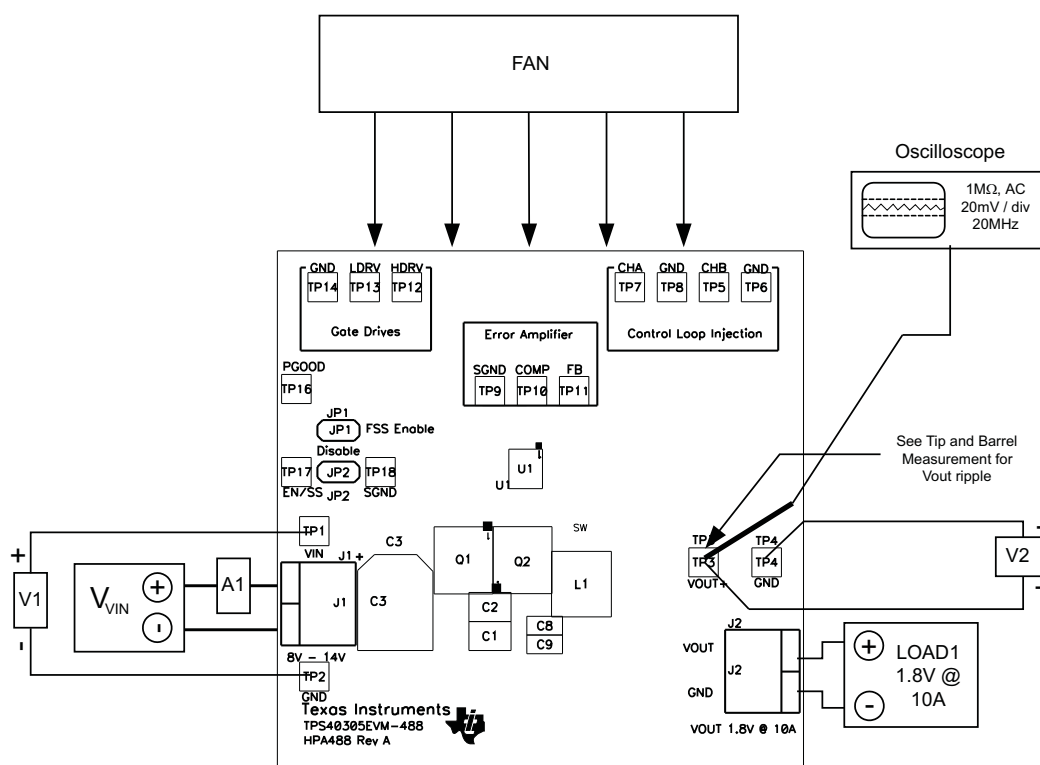

Figure 2. TPS40305EVM-488 Recommended Test Set-Up
Shown in Figure 2 is the basic test set up recommended to evaluate the TPS40305EVM-488. Note that although the return for J1 and JP2 are the same system ground, the connections should remain separate as shown in Figure 2.
2. Prior to connecting the DC input source, V_{IN} , it is advisable to limit the source current from V_{IN} to 3.0A maximum. Make sure V_{IN} is initially set to 0V and connected as shown in Figure 2.
3. Connect VIN to J1 as shown in Figure 2.
4. Connect ammeter A1 between VIN and J1 as shown in Figure 2.
5. Connect voltmeter V1 to TP1 and TP2 as shown in Figure 2.
6. Connect voltmeter V2 to TP3 and TP4 as shown in Figure 2.
8. Place fan as shown in Figure 2 and turn on making sure to blow air directly across the evaluation module.